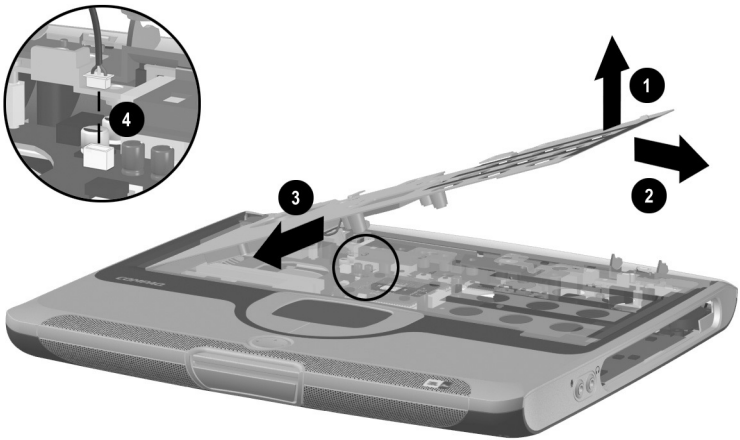

Figure 5-28. Removing the Heat Spreader (Continued)
5. Lift up the right side of the heat spreader ❶ until it rests at an angle (Figure 5-28).
6. Slide the heat spreader to the right ❷ until the left side of the heat spreader clears the base enclosure.
7. Slide the heat spreader forward ❸ and rest it on the palm rest.
8. Disconnect the fan cable ❹ from the system board.